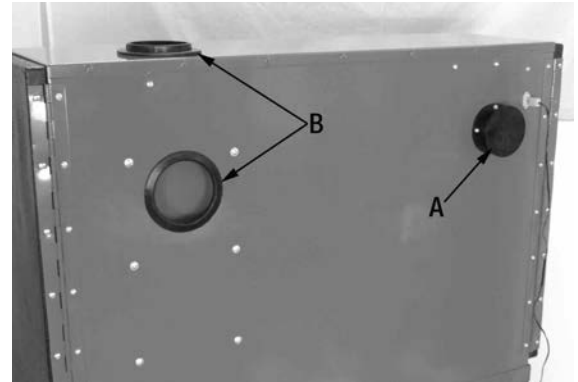

FIGURE 13
Note: If a vacuum or dust collector are not used to reduce airborne dust inside the cabinet, install the dust port cover (A) Fig.13 as shown, and remove the large plastic cover (B) to uncover large opening (B). This will allow air to flow out of the sandblast cabinet.